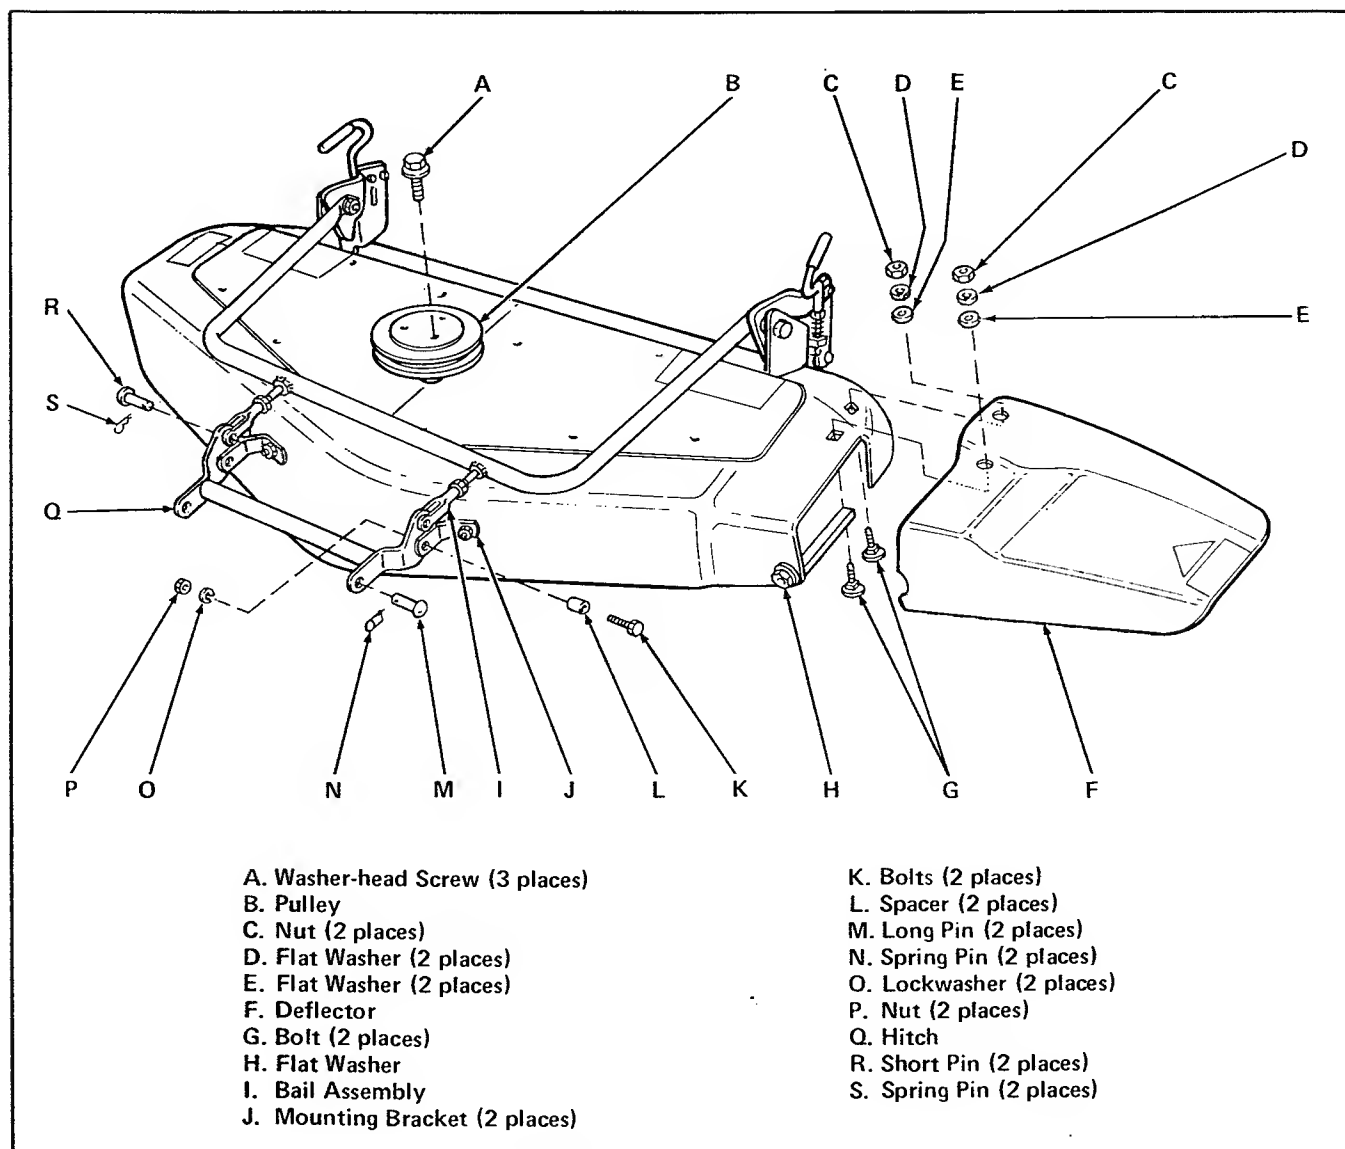

Figure 24. Assembly 48" Mower
1. Align the holes in the hitch (item Q, figure 24) with the holes in the mower mounting bracket (item J).